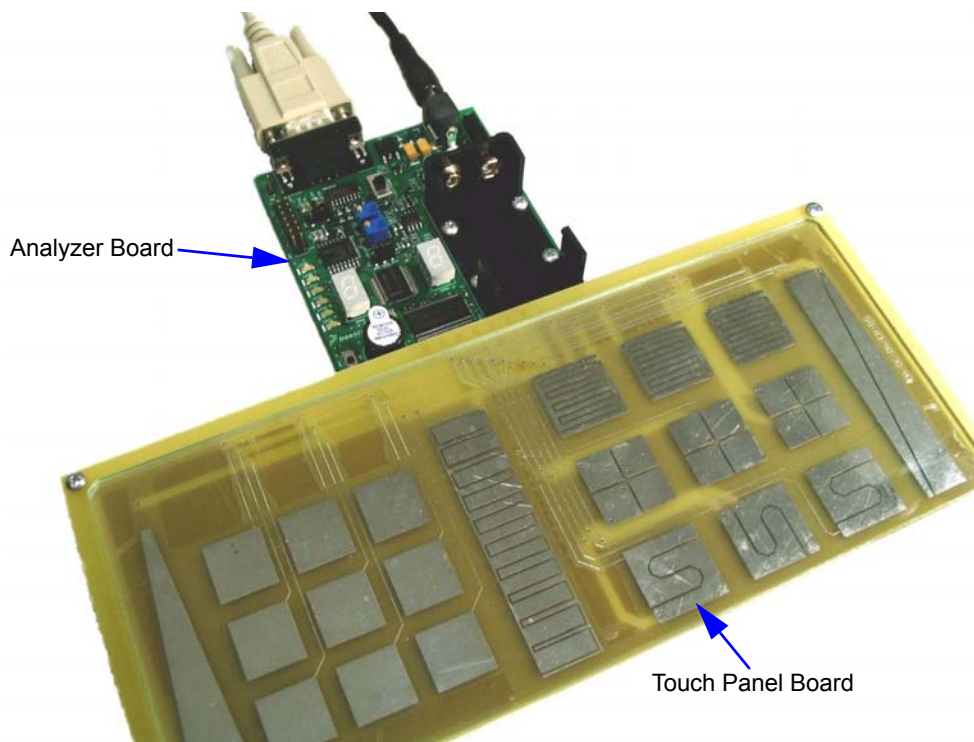

Figure 1-1. Touch Panel System concept
- TPS consists of two boards: the Analyzer Board (AB) and the Touch Panel Board (TPB). The Analyzer Board (AB) includes the E-field sensor, the micro controller, the MC33993, LED's, serial port, displays and all hardware required for the application. In essence, the Analyzer Board (AB) is responsible for processing data and control of the application.
Figure 1-1 below shows the TPS concept. The populated board is called the Analyzer Board (AB) while the electrodes board is called the Touch Panel Board (TPB).